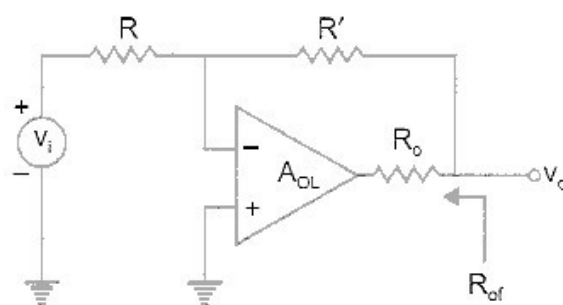

Fig. P. 2.7
2.7. In the circuit of Fig. P. 2.7 if $R_i = \infty$ show that the output admittance Y_{of} is given by